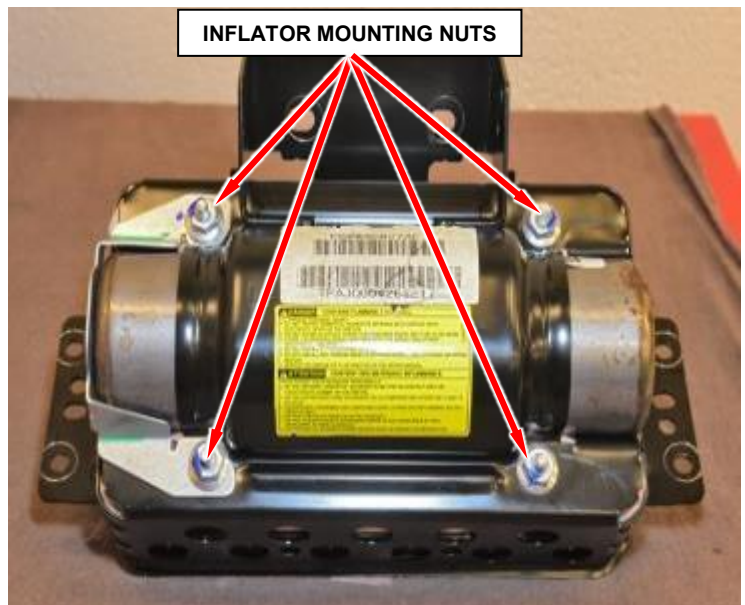

Figure 13 – Mounting Nuts
- b. Remove and **discard** the four inflator mounting nuts (Figure 13).
- n. Install the four **NEW** mounting nuts to the airbag housing and tighten to 53 in. lbs. (6 N·m) (Figure 13).